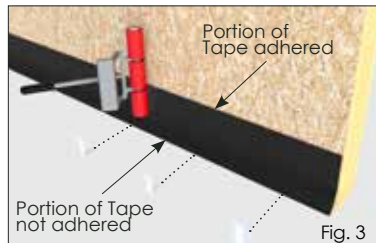

Fig. 3
1. Apply 150mm DriFlash Split Liner Tape to the bottom edge of the wall panel. Create a flap by adhering the top half of the Tape only using the release liner. Roller top edge well. (Fig.3)